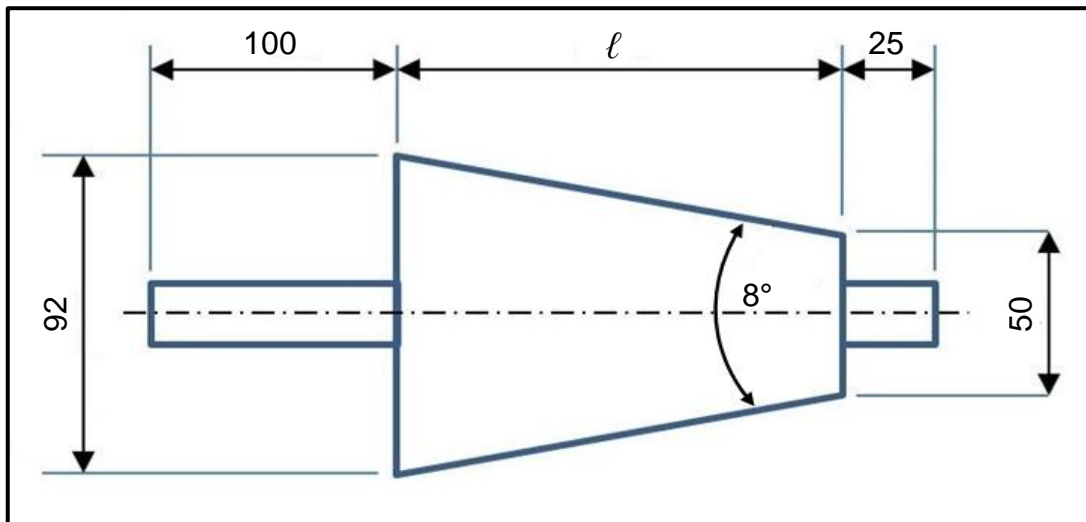

FIGURE 5.2
- 5.2 FIGURE 5.2 below shows a taper with an included angle of 8°. Answer the questions that follow.